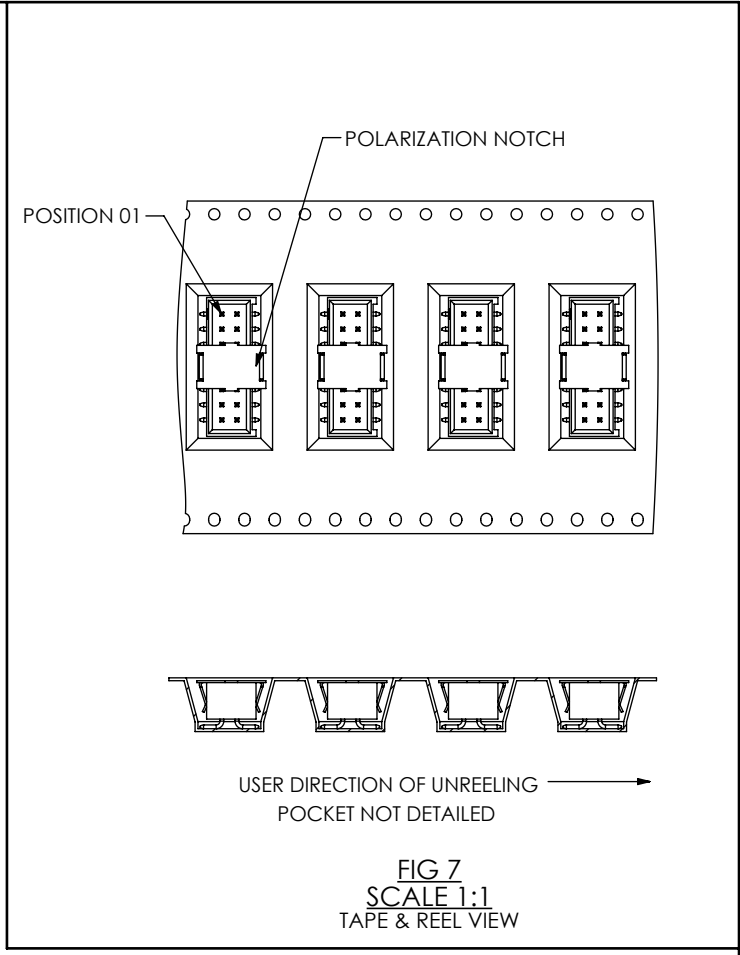

FIG 7
-TR: TAPE AND REEL (SEE FIG 7, SHT 4) (-SM OPTION ONLY)